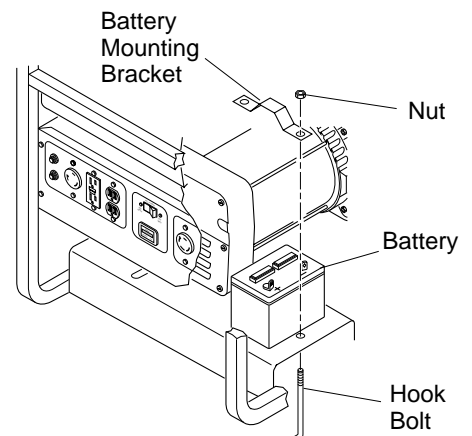

Figure 10 - Battery Hold-Down System (Model RGH7500IE Shown)
1. Secure battery to generator by battery hold-down system. This system consists of the battery mounting bracket, hook bolts, and nut (see Figure 10).